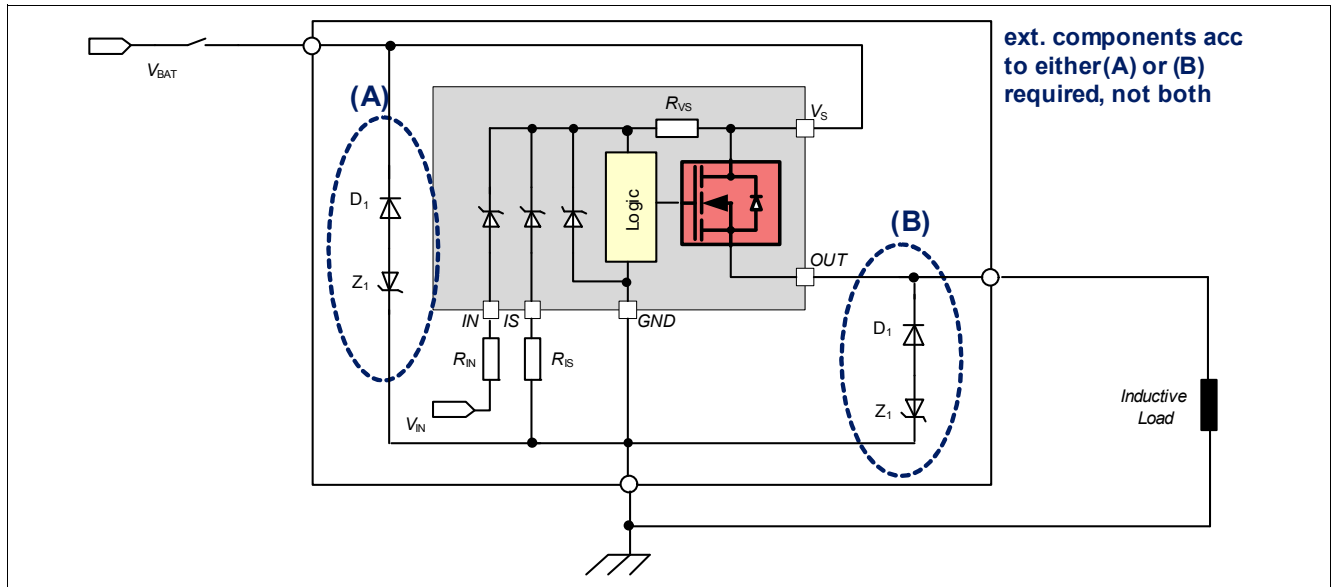
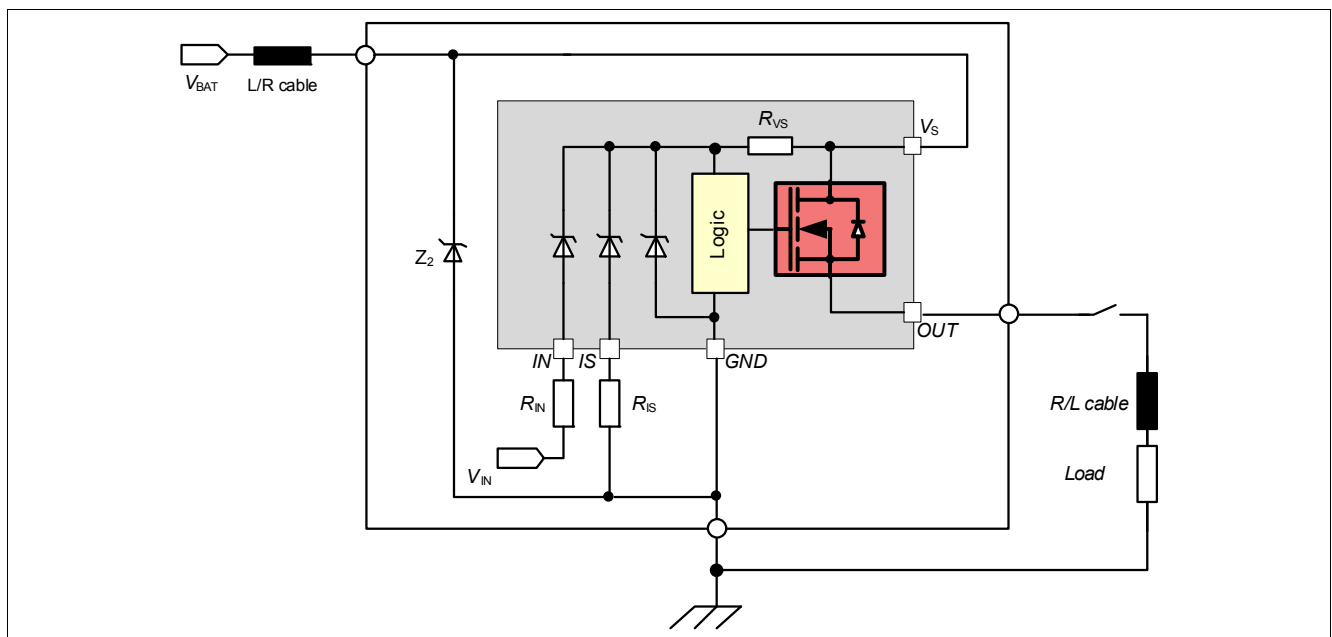

Figure 18 Loss of V_S
Figure 19 Loss of Load
In case of loss of V_S connection with charged inductive loads, a current path with sufficient load current capability has to be provided, to demagnetize the charged inductances. It is recommended to protect the device using a Zener diode together with a diode ($V_{Z1} + V_{D1} < 16V$), with path (A) or path (B) as shown in **Figure 18**.
For higher clamp voltages, currents through all pins have to be limited according to the maximum ratings. Please see **Figure 18** and **Figure 19** for details.